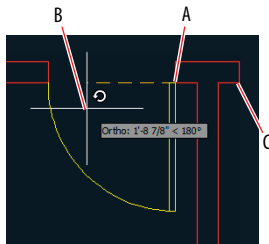

FIGURE 7.12 Inserting a door and rotating it onscreen
11. Click point A in the leftmost room, shown in Figure 7.12. Verify that Ortho mode is on in the status bar; if not, toggle it on. Move the cursor to the left to rotate the door into the proper orientation (see Figure 7.12). Click canvas approximately at point B to insert the door.
13. Click point C, shown in Figure 7.12. The command prompt reads as follows: